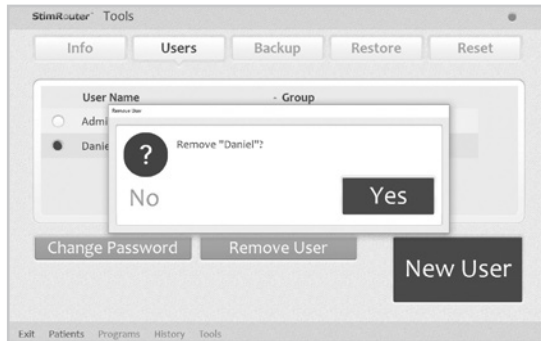

Figure 11-4: Removing a user
1. Press “Tools” on the Menu Bar, press the Users Tab, select a user name, and then press the “Remove User” button. Confirm “Yes” or “No” when prompted. See Figure 11-4.